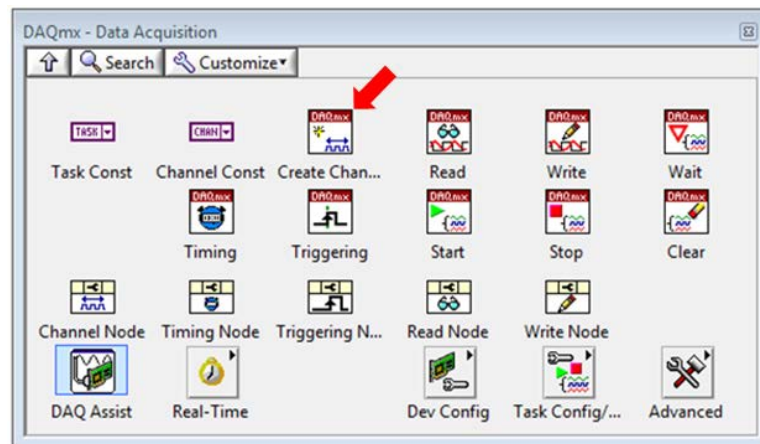
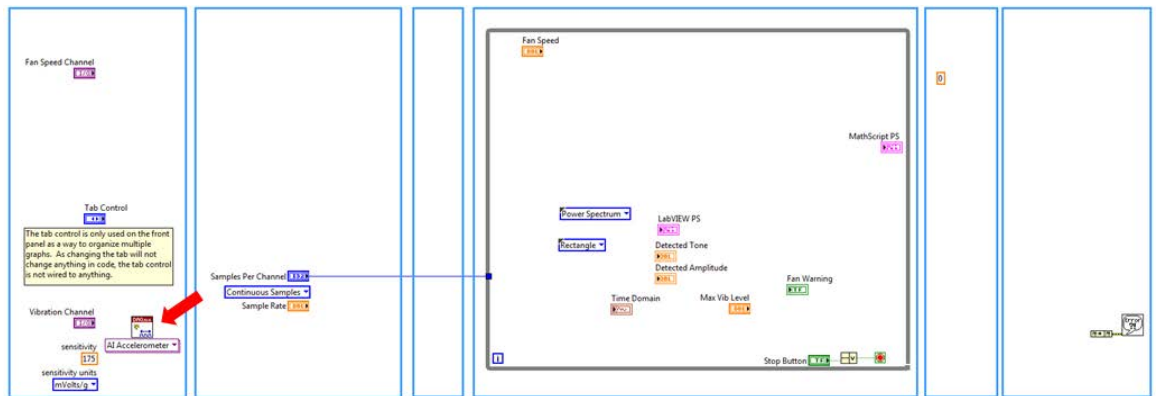

Figure 10. Pinning a palette enables you to click elsewhere in your code with the palette still visible.
Figure 11. The DAQmx Create Channel VI establishes communication with your DAQ device.
24. To start, drag the **NI-DAQmx Create Channel** (red arrow in Figure 10) and place it in the position shown in Figure 11.